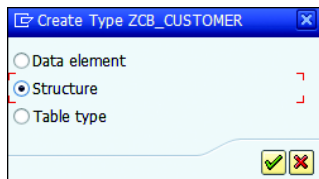

Figure 5.7 Modal Dialog Box to Select Data Type Category
3. In the modal dialog box, select the **STRUCTURE** radio button and click the green checkmark (Figure 5.7).